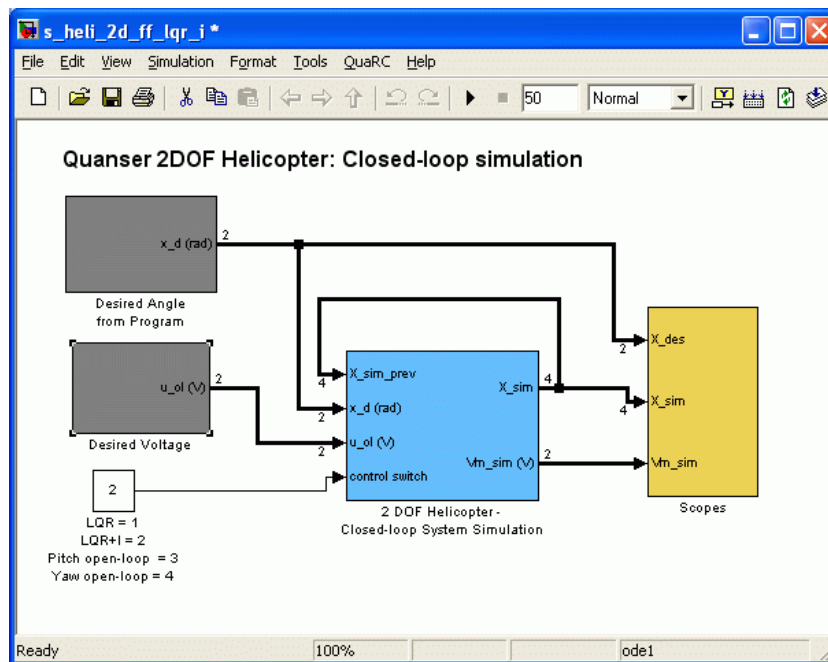

Figure 5.6: Simulink diagram used to simulate 2-DOF Helicopter system
2. Open the Simulink model called *s_heli_2d_ff_lqr_i.mdl*, shown in Figure 5.6.
When the switch is 1 or 2 the system runs in closed-loop and when it is 3 or 4 the user can command voltages directly to the actuators. When the switch is made from the closed-loop mode to open-loop mode the controller voltage values are latched and the *Desired Voltage* block shown in Figure 5.6 is enabled. This is particularly useful when performing model validation and parameter tuning.